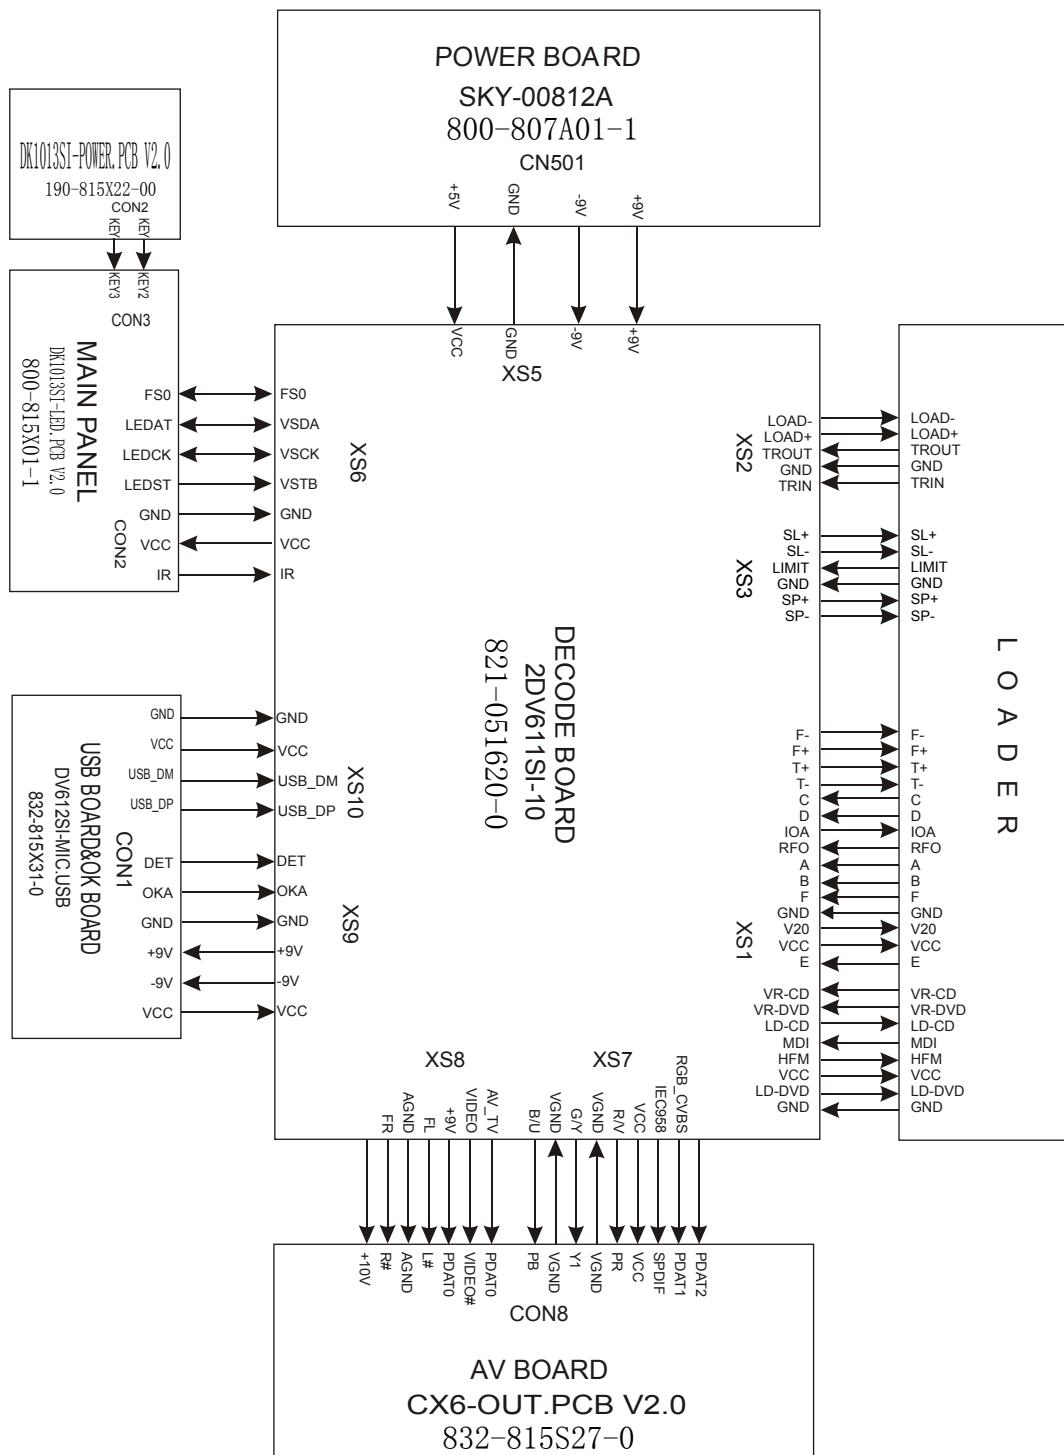

Figure 3.1.1 Overall Wiring Diagram of DK1013SI(RU)
Overall wiring diagram of DV611SI(RU) player is shown in figure 3.1.1.